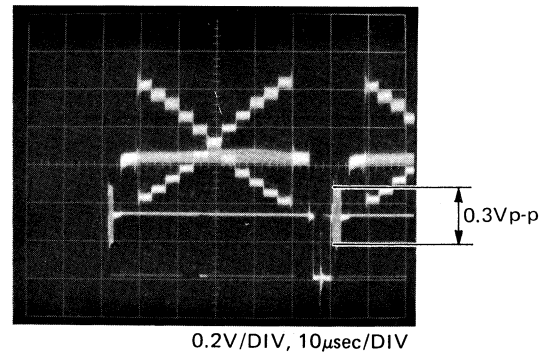

Fig. 4-2-55
- Adjust BURST GAIN VR22 so that the burst level is $0.3V \pm 0.01V$ on the oscilloscope. (Fig. 4-2-55)